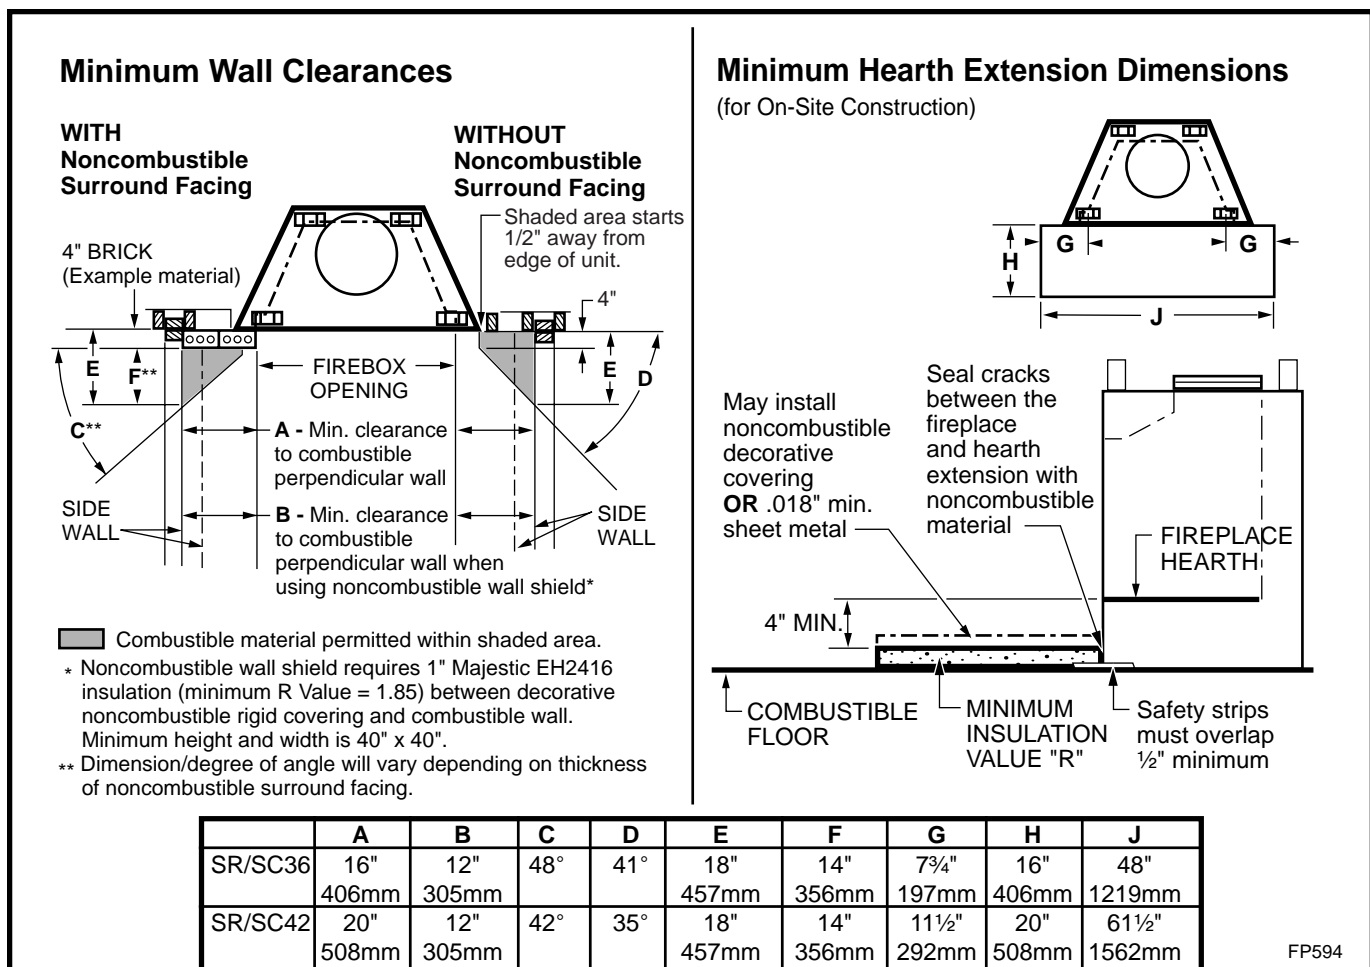

Fig. 23 Combustible side wall protection and hearth extension dimensions.
Often a decorative surround or vertical portion of the mantel is desired. If this is constructed of any combustible material it must be within the safe zone indicated in Figure 23.
Adjacent combustible side walls that are within the minimum dimensions shown in Figure 23 of fireplace opening must be protected with Vermont Castings, Majestic Products Wall Shield Model SP40 or a specifically built wall shield described below.
A hearth extension is required to protect a combustible floor in front of the fireplace. Refer to Figure 23 for minimum dimensions and mounting detail.
The hearth extension described in Figure 23 must be a durable non-combustible material with a minimum (total) Rt value of 1.09; see Figure 24 for examples. The overall height (above a combustible floor), depth and width must be as indicated, with the extension centered to the fireplace opening.
The top of insulation must be covered with a non-combustible decorative covering **or** a piece of .018" minimum sheet metal, to protect hearth extension material. (Fig. 23)
Secure the hearth extension to the floor to prevent shifting, using trim molding or other similar means at three (3) outer edges. Seal crack between the fireplace hearth and hearth extension with a non-combustible material. (Figs. 23 and 25)
WARNING: HEARTH EXTENSION MUST BE INSTALLED IN ACCORDANCE WITH FIGURE 23 AND MUST NOT COVER THE BOTTOM FRONT OPENING OF THE CIRCULATING MODEL.